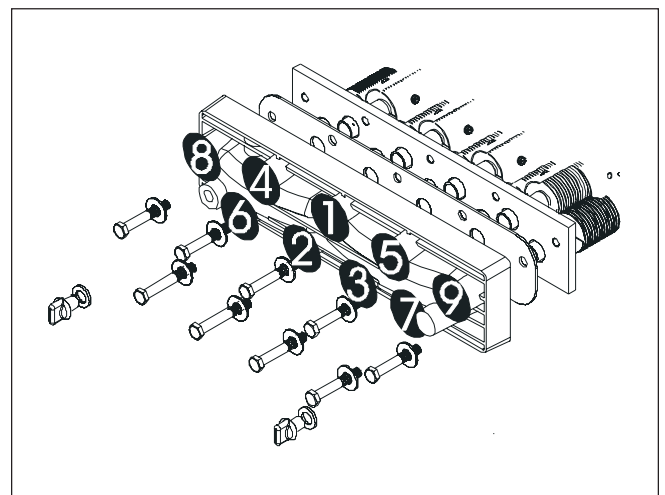

Figure 14. Header bolt tightening sequence
17. Remove the nine (9) bolts and washers from the inlet/outlet header and remove the header from the tube assembly.
18. Remove the nine (9) bolts and washers from the return header and remove the header from the tube assembly.
21. Insert the nine (9) bolts with washers through the header and into the header bar. **Hand tighten the bolts.**
23. Insert the nine (9) bolts with washers through the header and into the header bar. **Hand tighten the bolts.**
24. Use a torque wrench to tighten the bolts on each header to eleven (11) foot-pounds. The bolts must be tightened in the sequence indicated in Figure 14.
25. After completing the entire sequence as indicated in step 24, repeat the tightening sequence torquing the bolts to eighteen (18) foot-pounds.